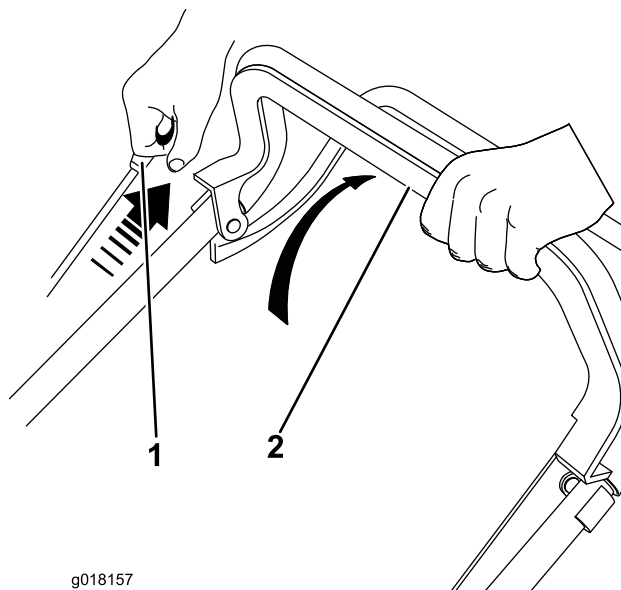

Figure 12
1. Hold the blade-control bar against the handlebar (Figure 12).
2. Pull the recoil-start handle (Figure 12).